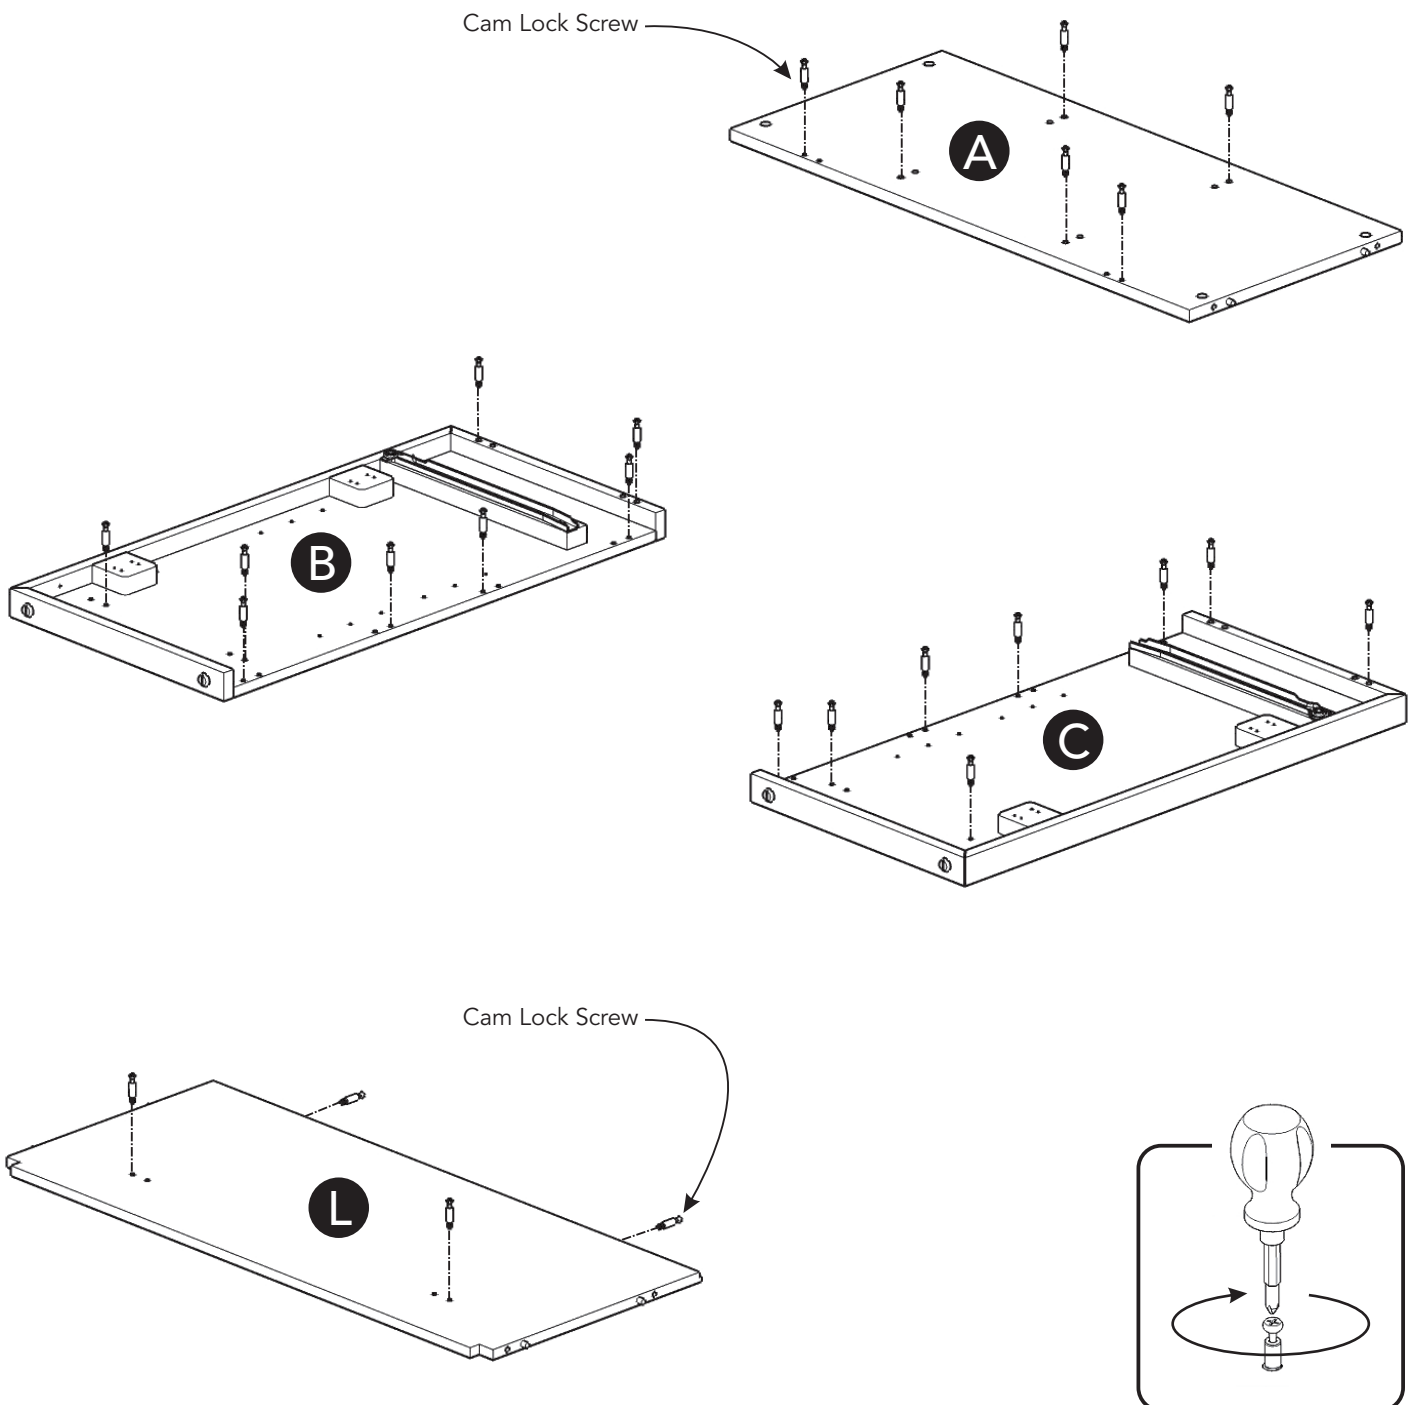

Figure 1
Insert Cam Lock Screws into pre-drilled holes in Top (A), Side Panels (B), (C), and Back Panel (L), then tighten. (See Figure 1)